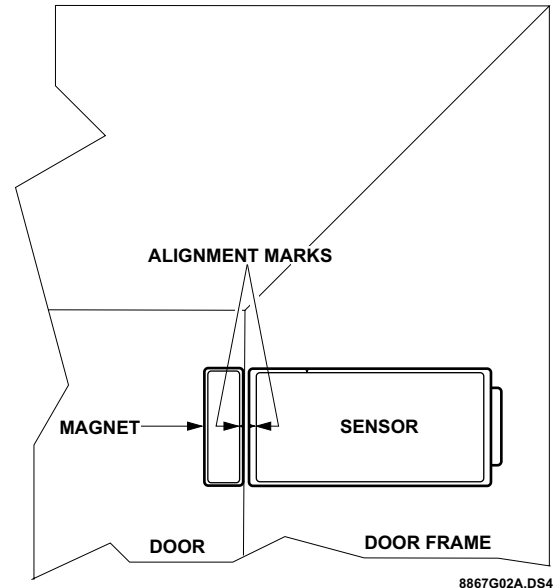

Figure 3. Mounted Sensor and Magnet
- 6) Remove the magnet from its base. Mount the magnet base no more than 3/8 inches away from the sensor base (see Figure 3). Replace magnet cover.)